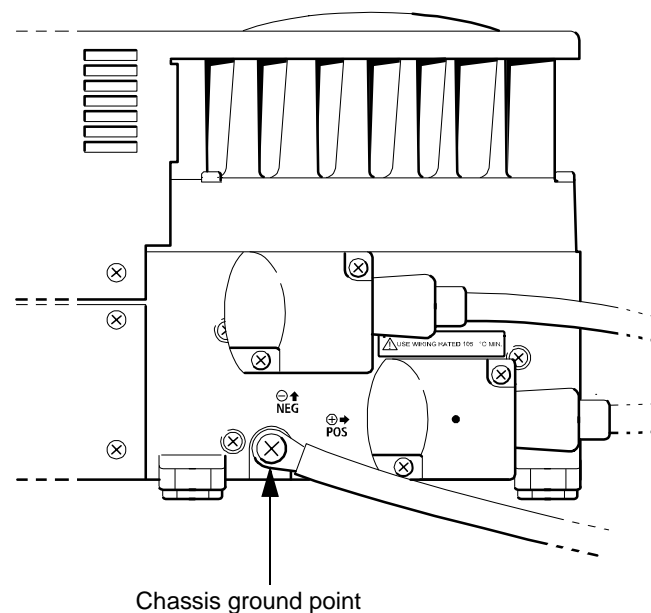

Figure 8 Completed DC Wiring and DC Grounding
The completed DC terminal wiring with covers is shown in Figure 8.
1. Using the appropriate wrench, loosen the bolt on the chassis ground point shown in Figure 8.